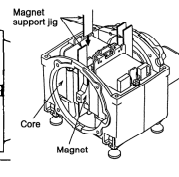

Fig. 2-G
- Undo (D) and remove diaphragm holder and diaphragm. (Ref: Fig 2-H)